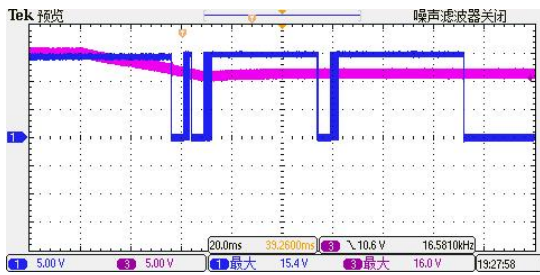

Fig.6 Fault occurs
1. Undervoltage occurs: FAULT pin outputs 2 "fault signal", then goes high level for 44ms; outputs the "fault signal" once more and sets high for 52ms; as **Fig.6**
2. Fault persists: if the secondary side undervoltage fault persists, the FAULT is always low; as **Fig.6**